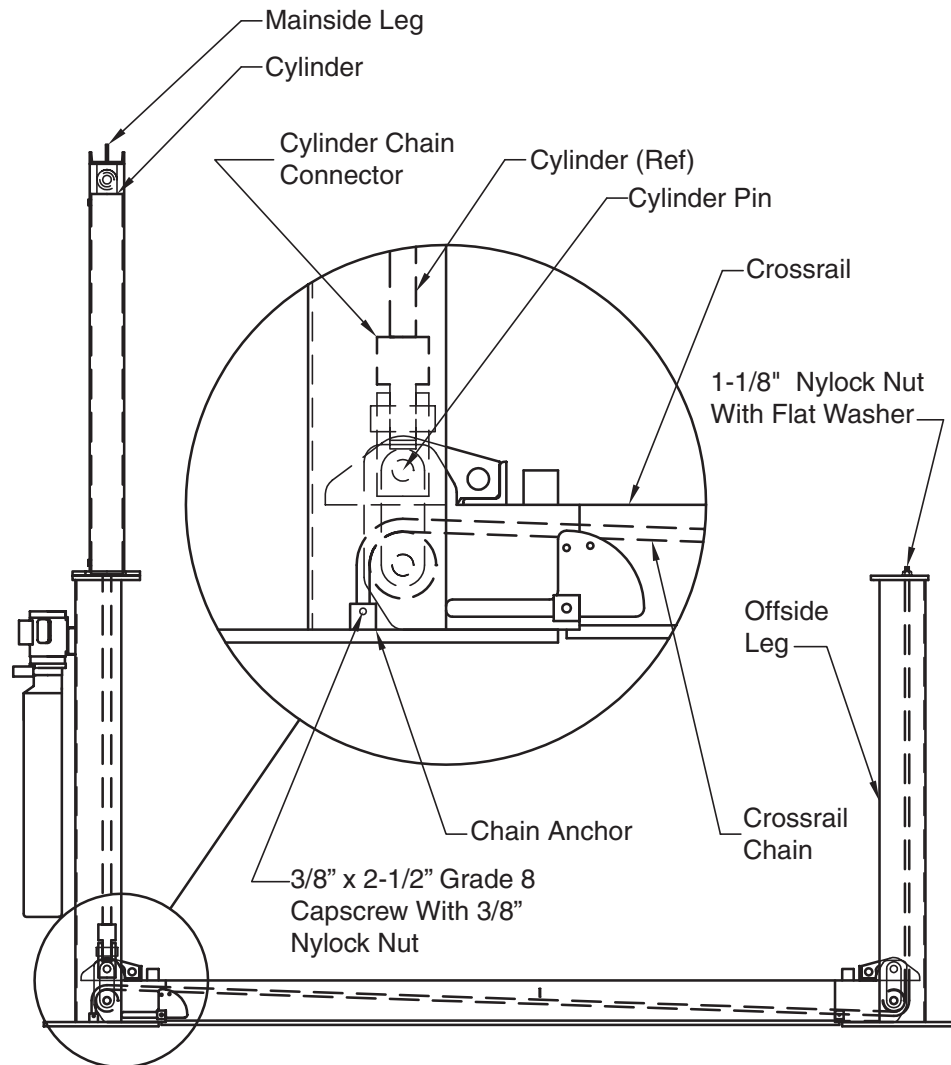

Fig. 7
- B. Use the pull wire to pull the three crossrail chains through the crossrail tube. The chains run over the sheaves at the mainside end and under the sheaves at the offside end, Fig. 7. Repeat for the other crossrail.